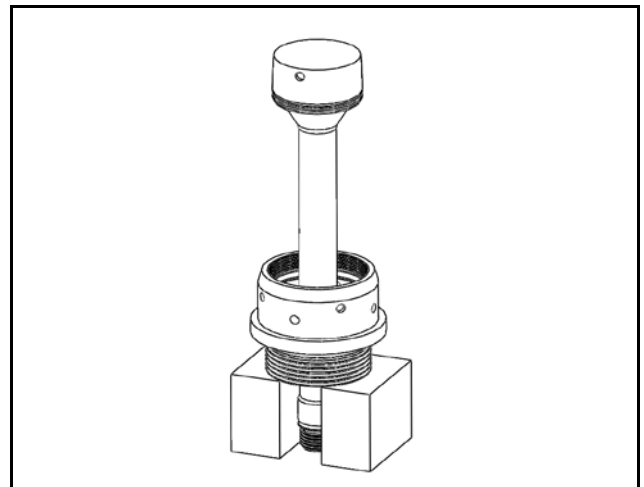
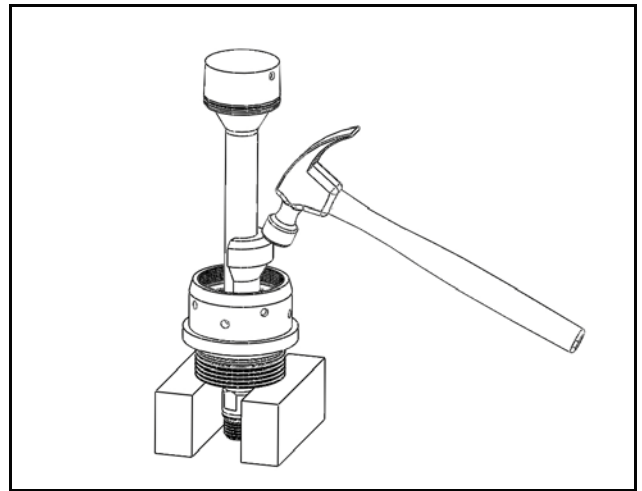

Figure 11 – Supported Impactor Assembly
Figure 12 – Slide Bearing Removal
5. Block the Impactor Assembly vertically (see Figure 11). Remove the two Slide Bearings by using the Bearing Extraction Tool as shown and lightly tapping with the metal hammer (see Figure 12). Inspect the Slide Bearings for excessive wear and replace if necessary.